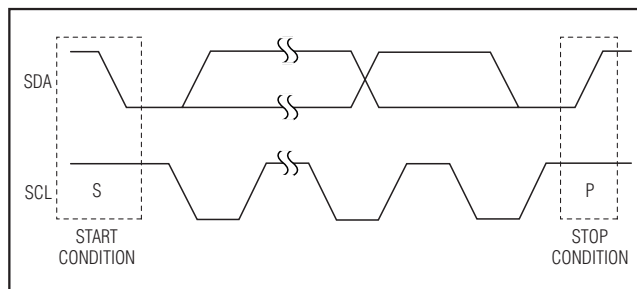
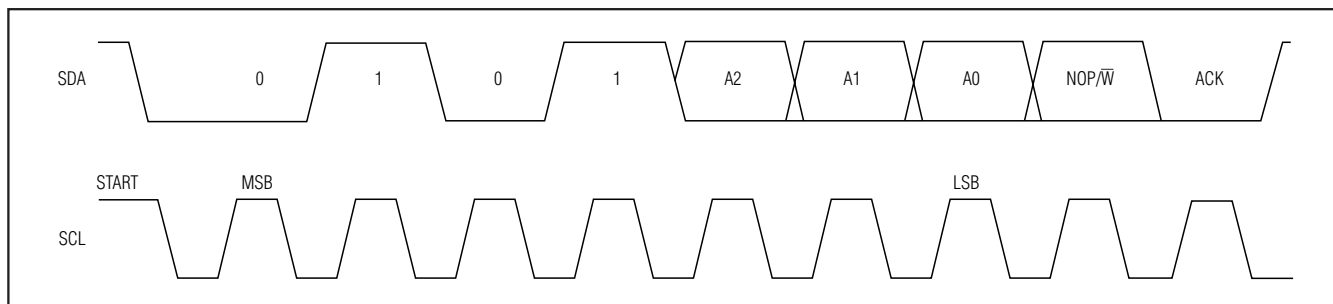

Figure 3. START and STOP Conditions
Figure 4. Slave Address
Each transmission consists of a START (S) condition (Figure 3) sent by a master, followed by the MAX5477/MAX5478/MAX5479 7-bit slave address plus the NOP/ $\overline{W}$ bit (Figure 4), 1 command byte and 1 data byte, and finally a STOP (P) condition (Figure 3).
communicating with the slave. The bus is then free for another transmission (Figure 3).
The MAX5477/MAX5478/MAX5479 have a 7-bit-long slave address (Figure 4). The 8th bit following the 7-bit slave address is the NOP/ $\overline{W}$ bit. Set the NOP/ $\overline{W}$ bit low for a write command and high for a no-operation command.